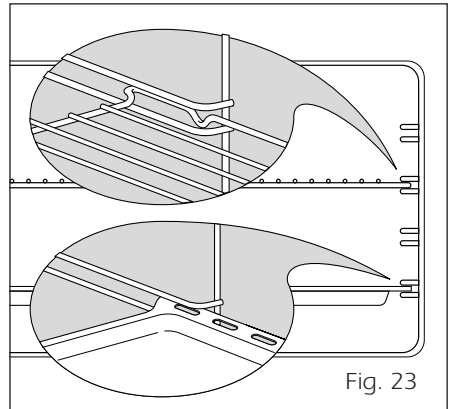

Fig. 23
- Slide the tray and rack into the runners (Fig. 23).